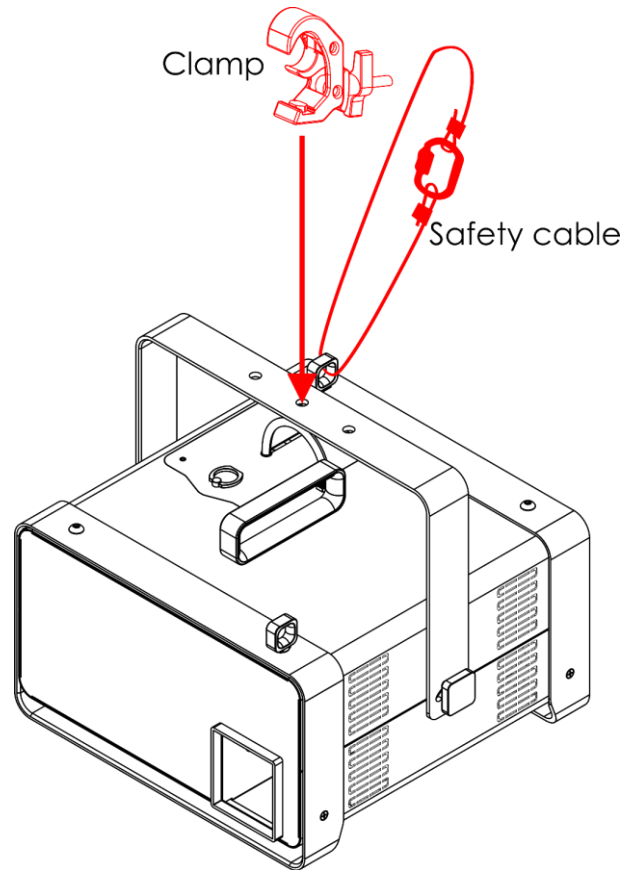

Fig. 06
- 01) Use a clamp to attach the device to the supporting structure, as shown in Fig. 06. Make sure that the device cannot move freely.
- 02) Secure the device with a secondary suspension, for example a safety cable. Make sure that the secondary suspension can hold 10 times the weight of the device. If possible, the secondary suspension should be attached to a supporting structure independent of the primary suspension. Put the safety cable through the **safety eye (04)**, as shown in Fig. 06.